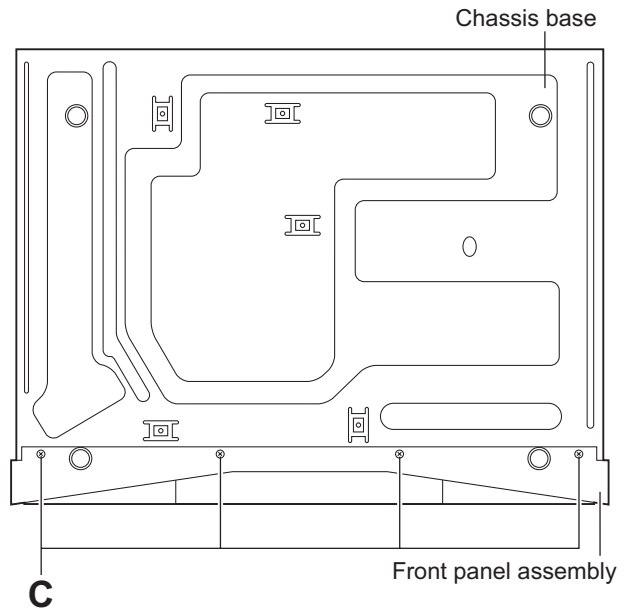

Fig.7
- From the bottom side of the main body, remove the four screws C attaching the front panel assembly. (See Fig.7.)